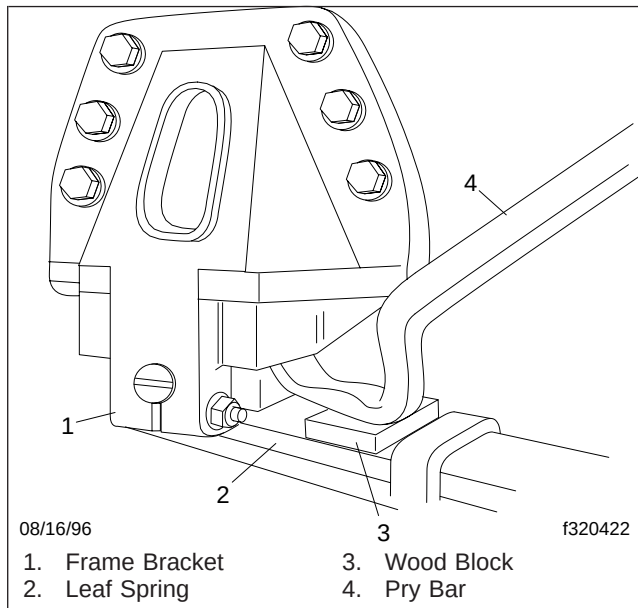

Fig. 12, Hendrickson RT2 and RTE2 Series Frame Bracket Inspection
6. Place a block of wood on the leaf spring. See Fig. 12. Place a pry bar on the block of wood and insert the end of the pry bar under the frame hanger. Attempt to lift the frame hanger, as shown in Fig. 12. Also, with an empty chassis and the brakes applied, attempt to rock the chassis back and forth while observing the spring eye. In either case, if 1/8 inch or more of movement is observed, the bushing and pin should be replaced. This also could indicate that a broken spring eye and spring are connected to the spring hanger through the wrapper eye of the second leaf. In this case, the main leaf or the complete spring should be replaced immediately.